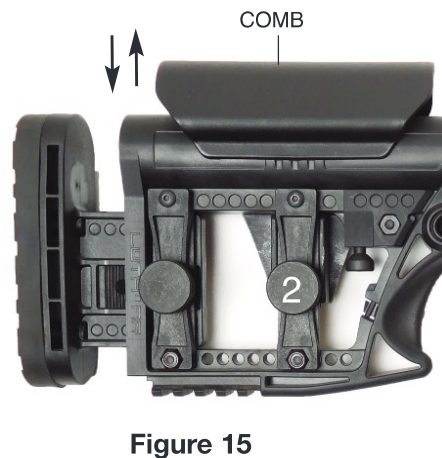

Figure 15
To adjust comb height (Fig. 15), turn knob (2) counterclockwise to loosen and slide the comb up or down to the desired position. Turn knob (2) clockwise to tighten and set comb at desired position.